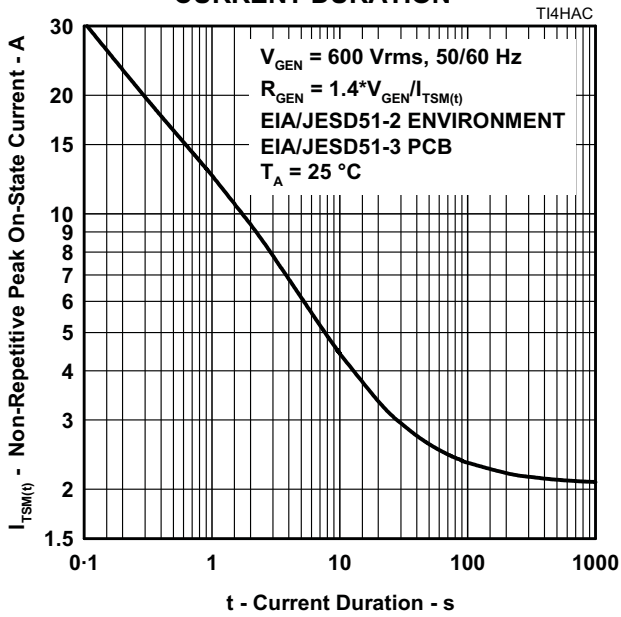

Figure 5.
4. EIA/JESD51-2 environment and EIA/JESD51-3 PCB with standard footprint dimensions connected with 5 A rated printed wiring track widths. See Figure 5 for the current ratings at other durations. Derate current values at $-0.61\text{ }^\circ\text{C}$ for ambient temperatures above $25\text{ }^\circ\text{C}$.